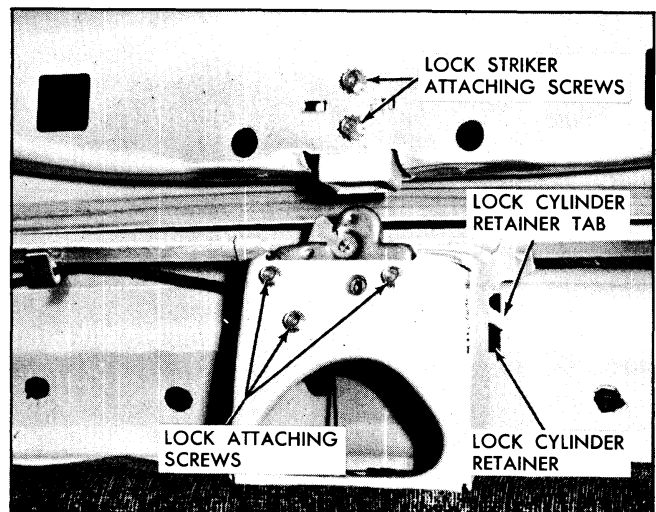

Fig. 15-8 Rear Compartment Lid Lock and Striker
1. Carefully bend lock cylinder retainer tab, (Fig. 15-8) forward to allow disengagement of retainer.
2. Using a suitable hooked tool, pull lock cylinder retainer, (Fig. 15-8) until retainer disengages from lock cylinder.
2. Remove rear compartment lock attaching screws (Fig. 15-8) and remove lock.
1. Mark location of striker on compartment lid panel; then, remove striker attaching bolts and remove striker and retaining plate (Fig. 15-8).